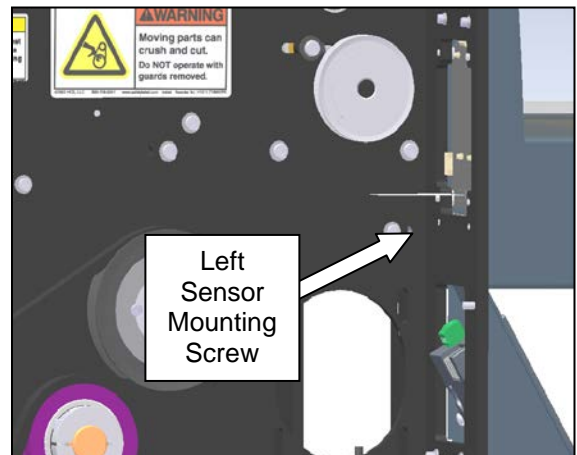

Figure 3-352. Left Sensor Mounting Screw
8. Remove the sensor mounting screw, identified in Figure 3-352.